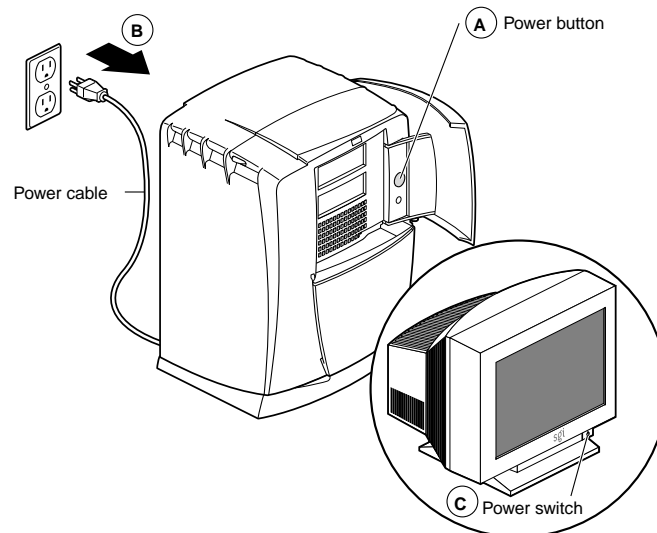

Figure 2-3 Powering Off the Workstation
1. Open the cover and press the power button (see A in Figure 2-3) to power off your workstation.
2. Unplug the power cable (B).
3. Press the monitor power switch (C) to power off your monitor.